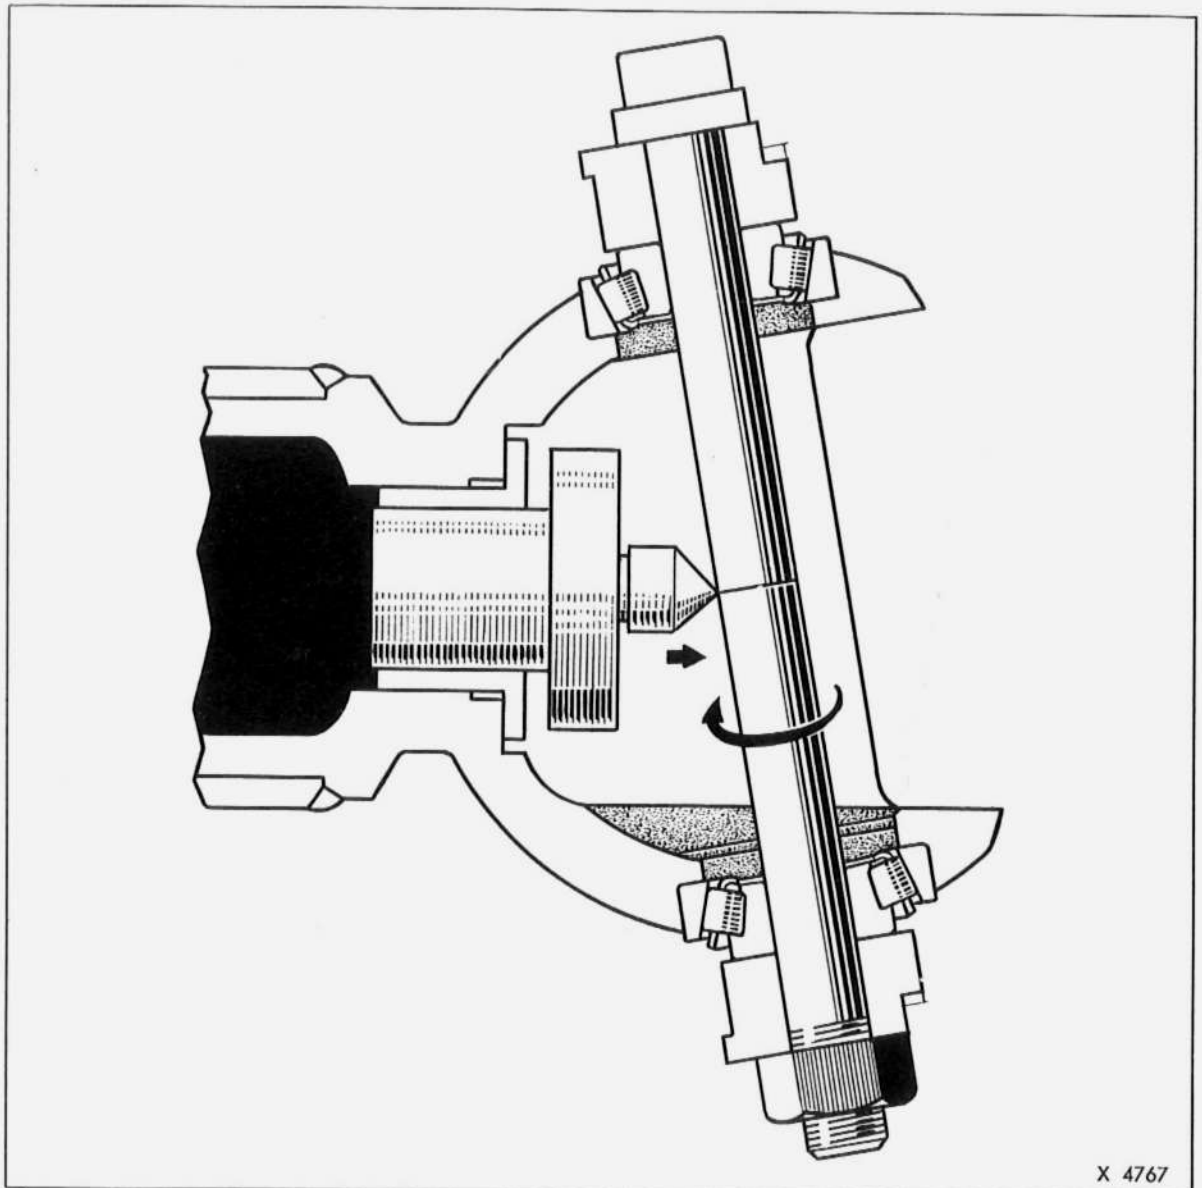

Fig. 5-7 Scribing a Line on Rod Gauge
1. Apply thin coat of red lead to the middle part of the rod gauge so that a line can be produced when the rod gauge is revolved with respect to the plug. Now revolve the rod gauge in the housing while pressing the plug against the rod gauge and adapter against the bushing to produce a clear line around the gauge as shown in Fig. 5-7.